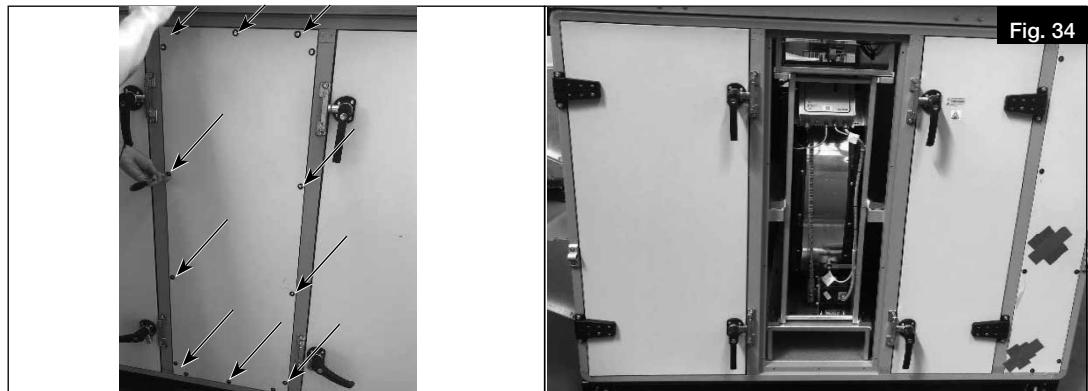

Fig. 34
1. Unscrew and open service panels (see Fig. 34).